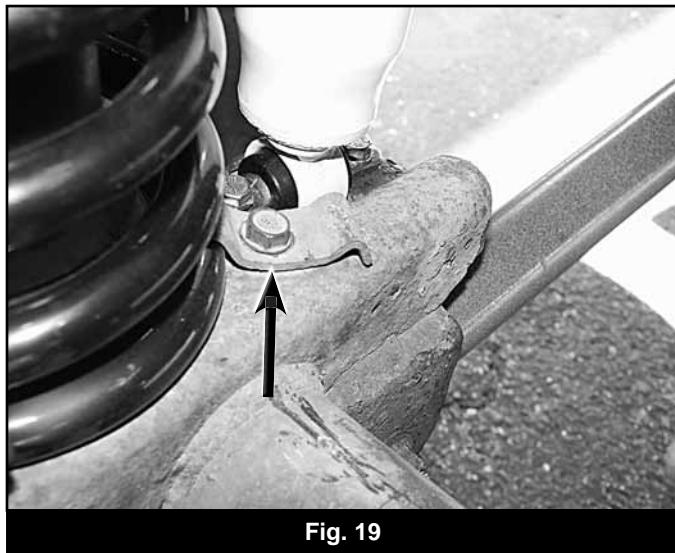

Fig. 19
49. If equipped, remove the lower coil spring retainer clips from the axle (Fig 19). Retain clips and bolts.